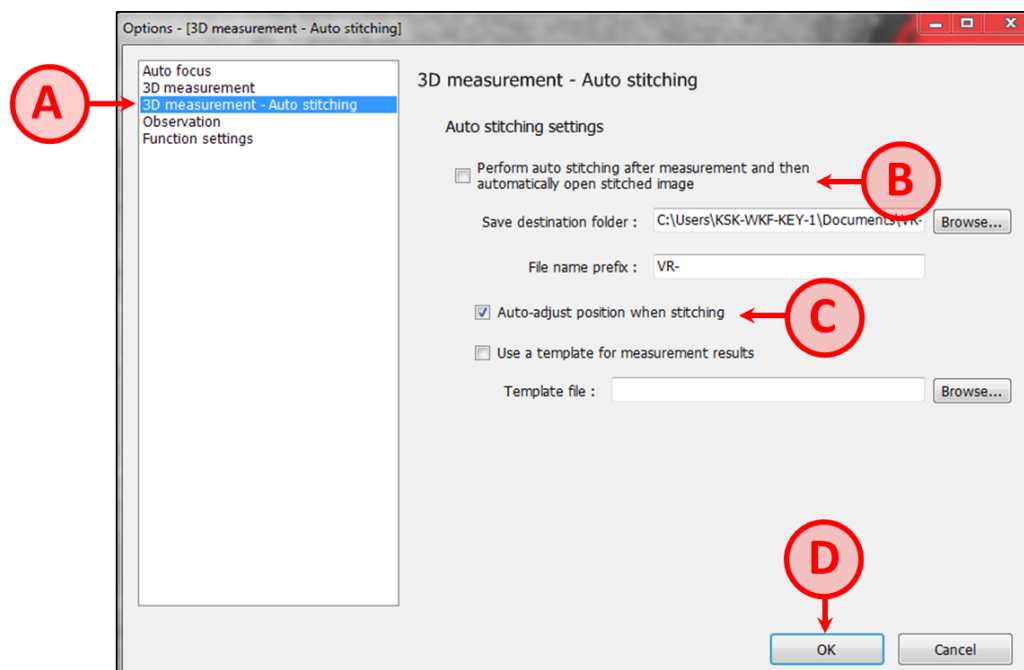

Figure 1 – Options [3D measurement – Auto stitching] Pop-Up Menu
- 1.3. Under the *Options* pop-up menu (Figure 1):